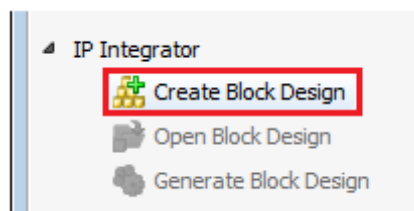

Figure 19. Create Block Design option
- 3-1-1.** In the **Flow Navigator**, expand **IP Integrator** and select **Create Block Design** command, see Figure 19.